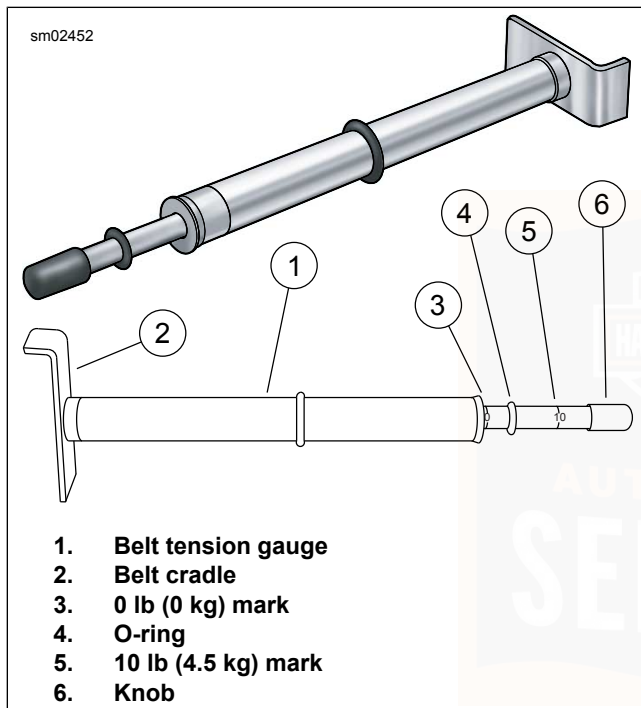
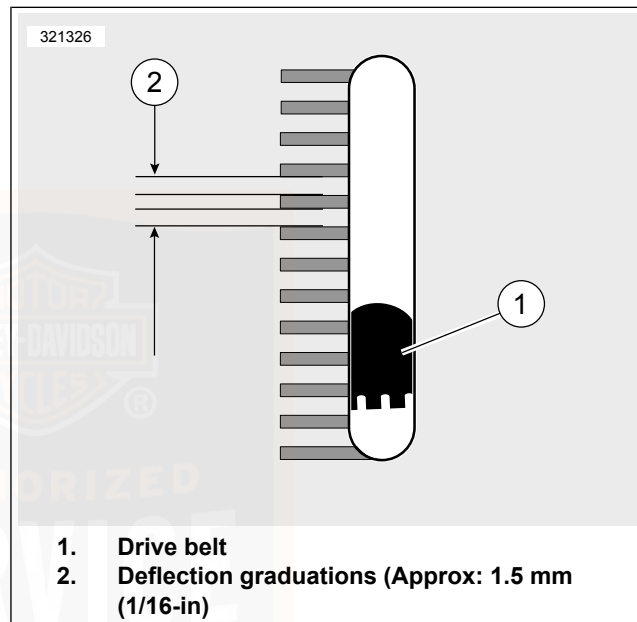

Figure 65. Belt Tension Gauge
Figure 66. Belt Deflection Window
3. See Figure 65. Measure belt deflection using **BELT TENSION GAUGE (PART NUMBER: HD-35381-A)**:
- a. Slide O-ring (4) to zero mark (3).
- b. **Models equipped with belt deflection window:** Fit belt cradle (2) against bottom of drive belt in line with belt deflection window.
- c. **All other models:** Fit belt cradle (2) against bottom of drive belt halfway between drive pulleys.
- d. Press upward on knob (6) until O-ring slides down to 10 lb (4.54 kg) mark (5) and hold steady.
- a. **Models equipped with belt deflection window:** See Figure 66. Measure belt deflection as viewed through belt deflection viewing window while holding gauge steady. Each deflection graduation is approximately 1/16 in (1.6 mm).